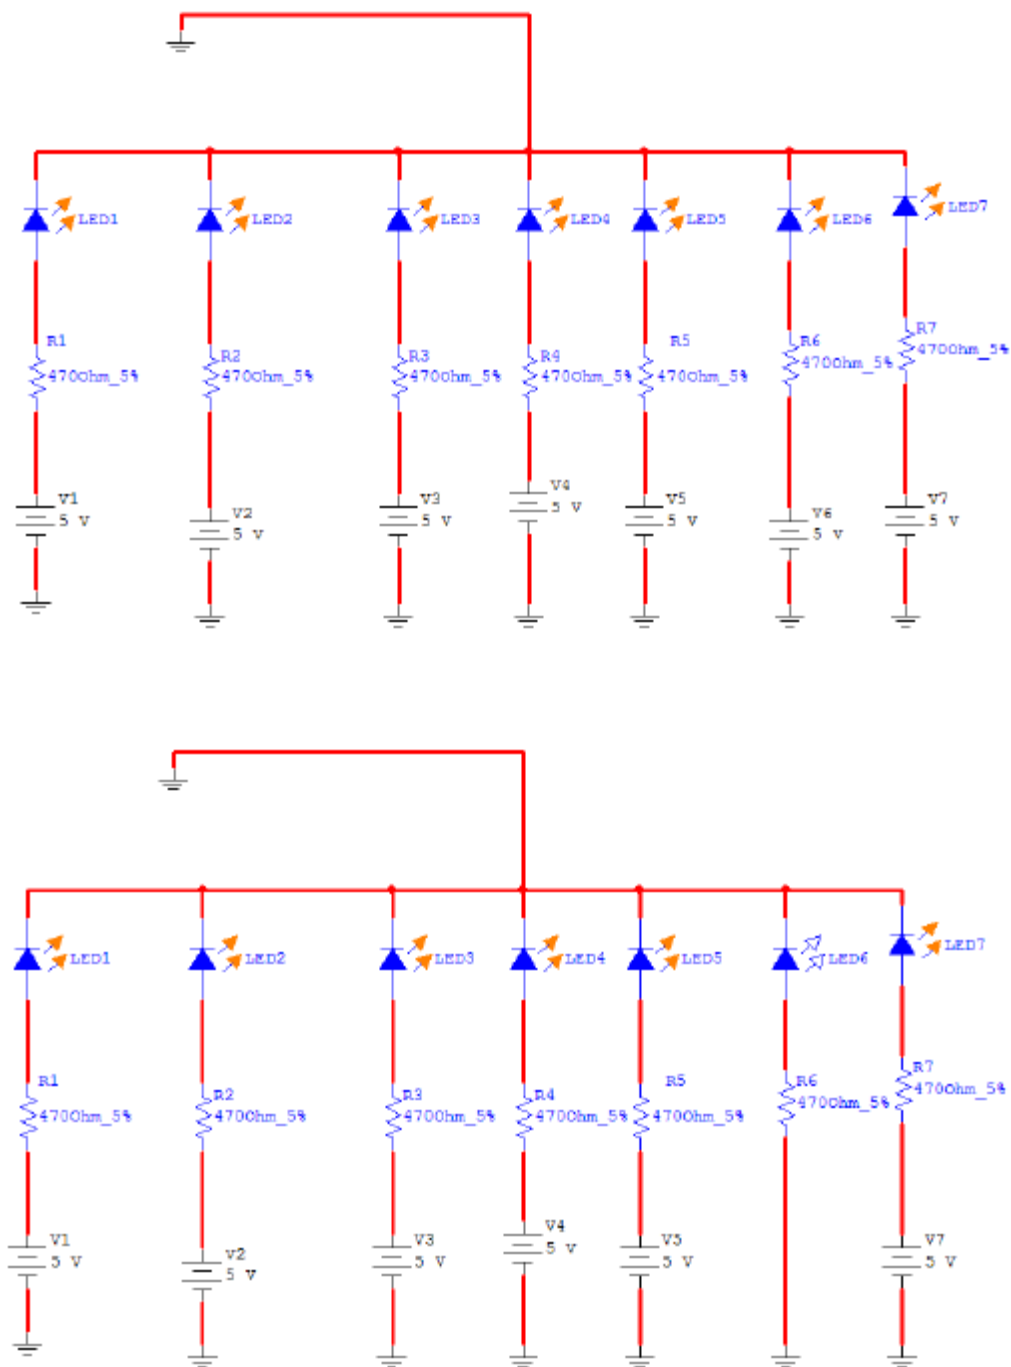

Fig.13 Common cathode 7-segment
- Connect the circuit shown in Fig.13.